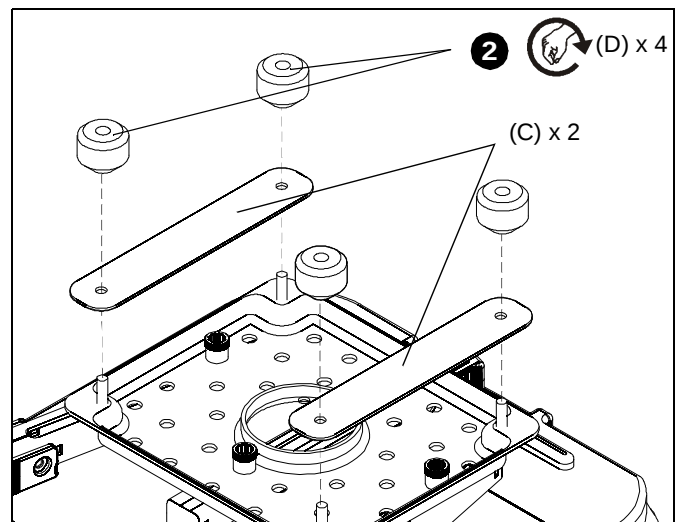

Figure 10
**NOTE:** Security brackets (C) can only be used when connecting SLBU bracket to RPA or non-locking RPM mounts.
1. Install security brackets (C) over screws on SLBU main plate. (See Figure 10)
2. Partially install thumb nuts (D) onto SLBU main plate screws. (See Figure 10)